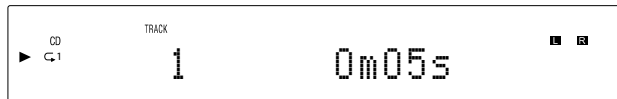

Figure 23
1. With the disc playing (Regular, Program or Random Playback Modes), press the REPEAT Push-button once to activate the Track Repeat (C1); press the REPEAT Push-button twice to activate the Disc Repeat (C). Refer to figures 23 and 24.